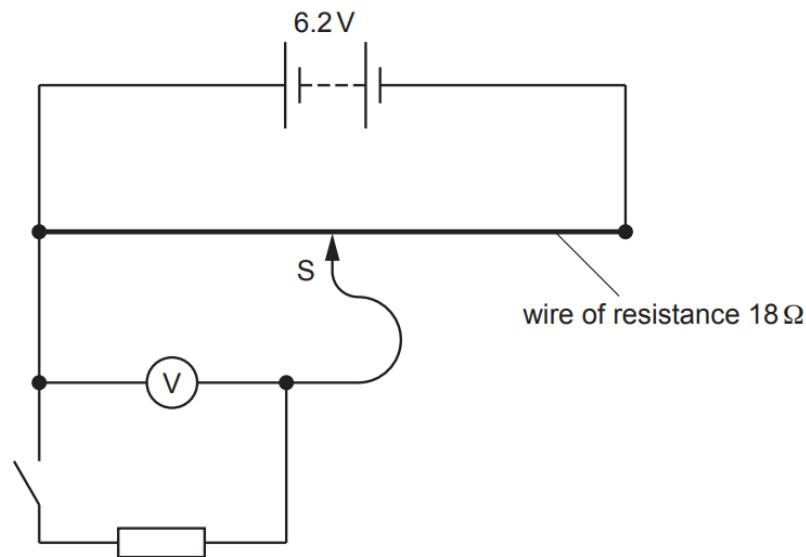

Fig. 5.1
- (b) A battery of electromotive force (e.m.f.) 6.2 V and negligible internal resistance is connected in a circuit to a uniform resistance wire, a voltmeter, a fixed resistor and a switch, as shown in Fig. 5.1.
On Fig. 5.1, draw a cross (x) on the resistance wire to show a possible new position of the slider. [1]